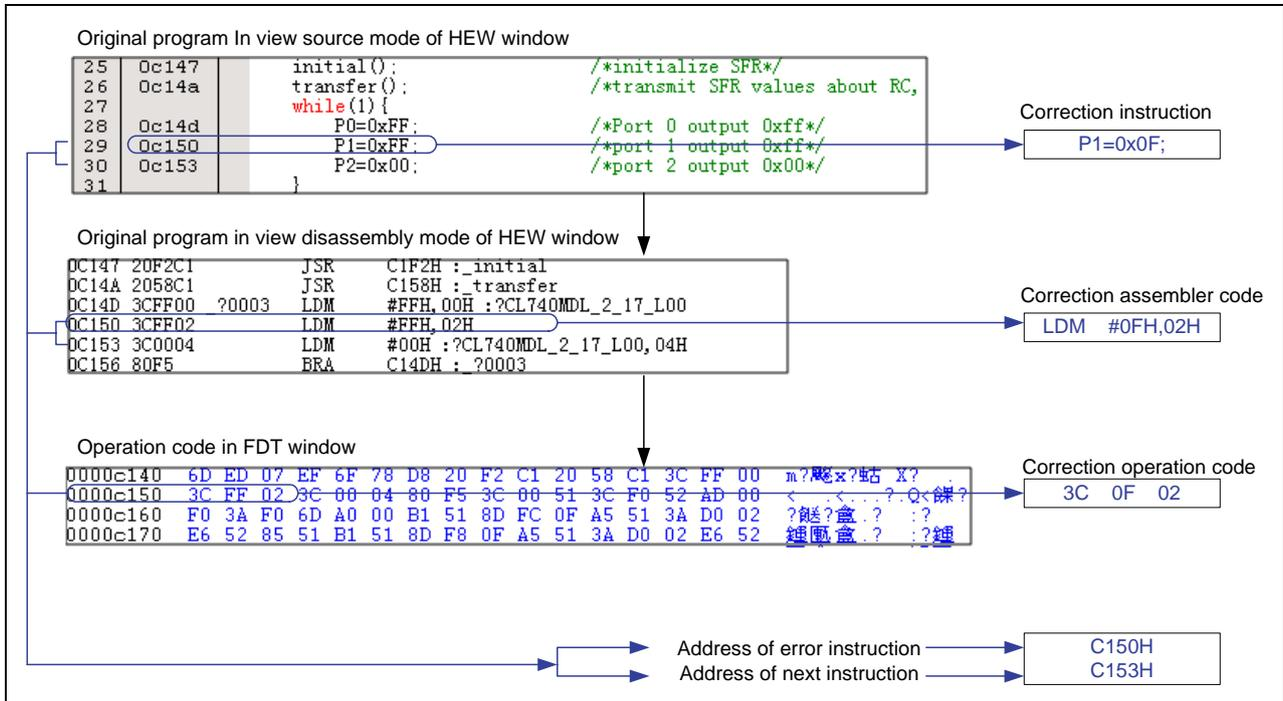

Figure 2 Error Instruction in Original Program
- In the original program, there is an error instruction to be corrected as shown in Figure 2.